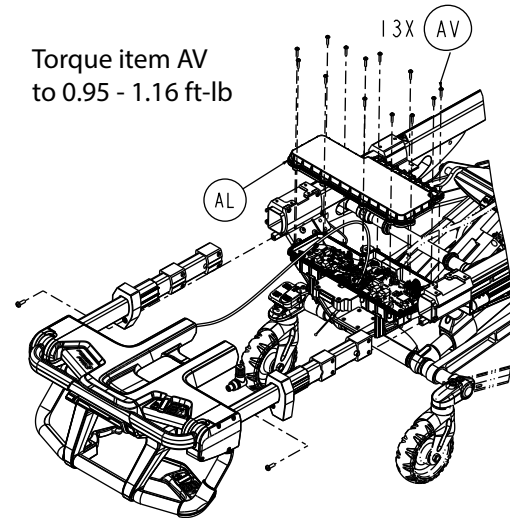

Figure 99 – Remove the FEIB enclosure screws
9. Using a T20 Torx driver, remove the thirteen round washer head tapping screws (AV) that secure the top FEIB enclosure (AL) to the bottom FEIB enclosure (Figure 99). Save the screws.